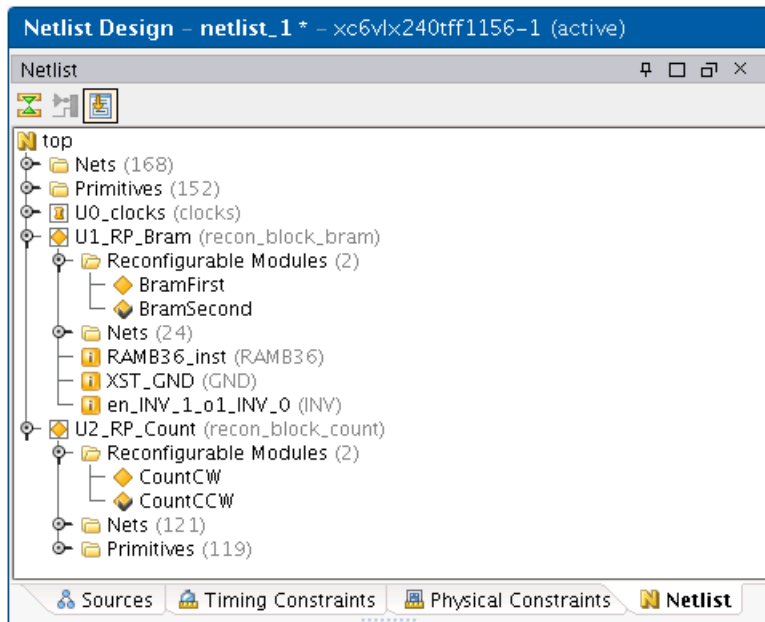

Figure 9: Netlist Window After Adding Reconfigurable Modules
At this point one additional Reconfigurable Module (RM) has been added to each Reconfigurable Partition (RP), and the netlist window should look similar to Figure 9 below. You will notice that under each RP there are Nets and Primitives listed. These nets and primitives are specific to the RM that is currently active, and are signified by the yellow diamond with a checkmark. In Figure 9 the active modules are BramSecond and CountCCW. You can change which RM is active by right-clicking on it and selecting **Set as Active Reconfigurable Module**.